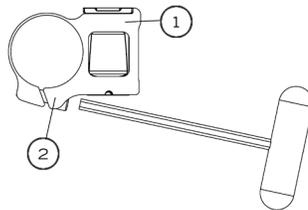

Fig. 17
- Install armrest receiver (1) (Fig. 17) on the upper tube of the frame at a distance of 160mm (6 1/4") from the rear tube of the frame.
- Slightly tighten screws (2) to allow the clamp to rotate.
- Insert armrest or sideguard into receiver (1).
- Rotate receiver (1) until the sideguard is perpendicular to the seat.
- Tighten screws (2) firmly.